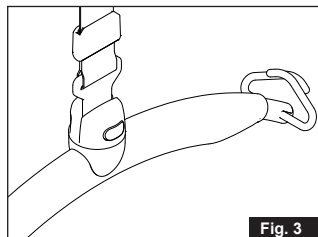

Fig. 3
3. Rotate the strap attachment to a vertical position (*fig. 3*).